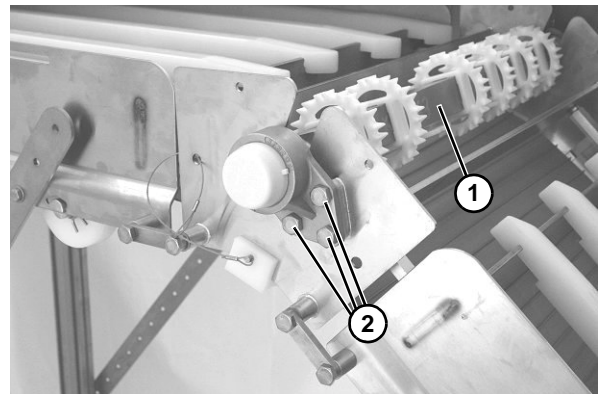

Figure 70
8. Insert spindle assembly (**Figure 70, item 1**) onto knuckle, and attach with three bolts (**Figure 70, item 2**).